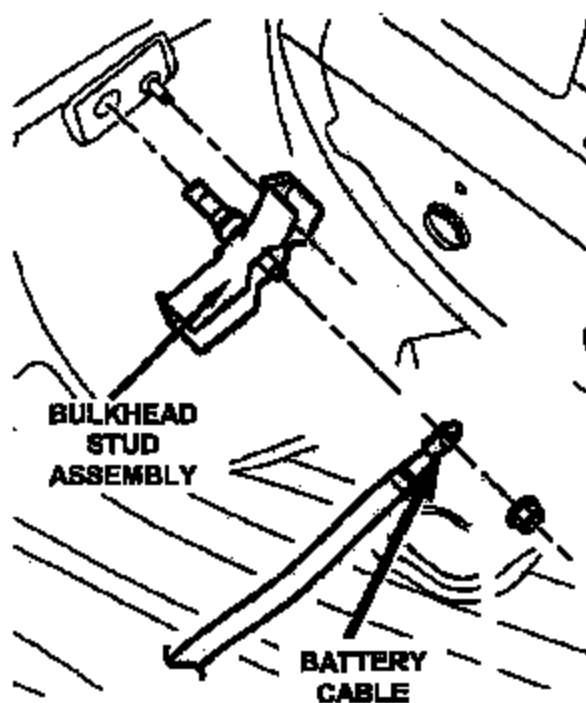

Figure 2
9. Inspect the battery cable bulkhead stud for signs of arcing and/or cross-threading (Figure 2). If the bulkhead stud is damaged, continue with **Section B – Replace Battery Cable Bulkhead Stud**.
10. Tighten the battery cable-to-bulkhead stud fastener to 80 in-lbs (9 N·m) (Figure 2).
5. Disconnect the battery cable from the bulkhead stud (Figure 2).
6. Remove the retaining nut for the bulkhead stud assembly and then remove and discard the bulkhead stud assembly (Figure 2).
8. Install the bulkhead stud assembly retaining nut (Figure 2), tighten the nut to 80 in-lbs (9 N·m).
9. Install the battery cable onto the bulkhead stud (Figure 2). Install a new battery cable nut (P/N 06101809) and tighten to 80 in-lbs (9 N·m).